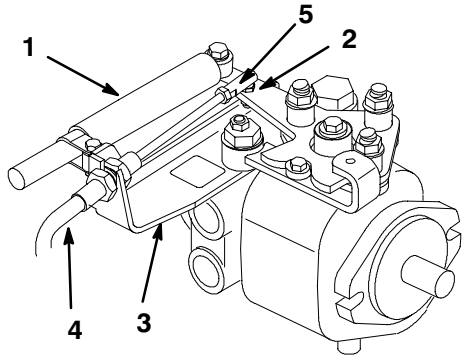

Figure 2
4. Remove nut, tube spacer, (2) washers and capscrew securing lever damper to cable support (Fig. 2).
5. Remove nut, pivot spacer, washer and capscrew securing other end of lever damper to pump lever (Fig. 2).
6. Loosen jam nuts securing traction cable to cable support (Fig. 2).
7. Remove lock nut securing traction cable ball joint to pump lever (Fig. 2).